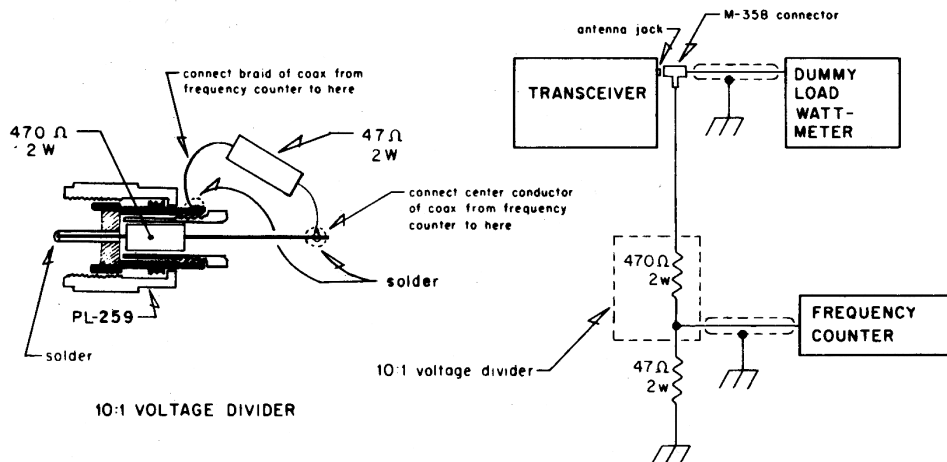

Figure 3-4. Connection of the Frequency Counter and Dummy Load
***NOTE:** See Figure 3-4 for connection of the frequency counter and the dummy load.
2. Connect the dummy load to the frequency counter of the antenna jack as shown in Figure 3-4.